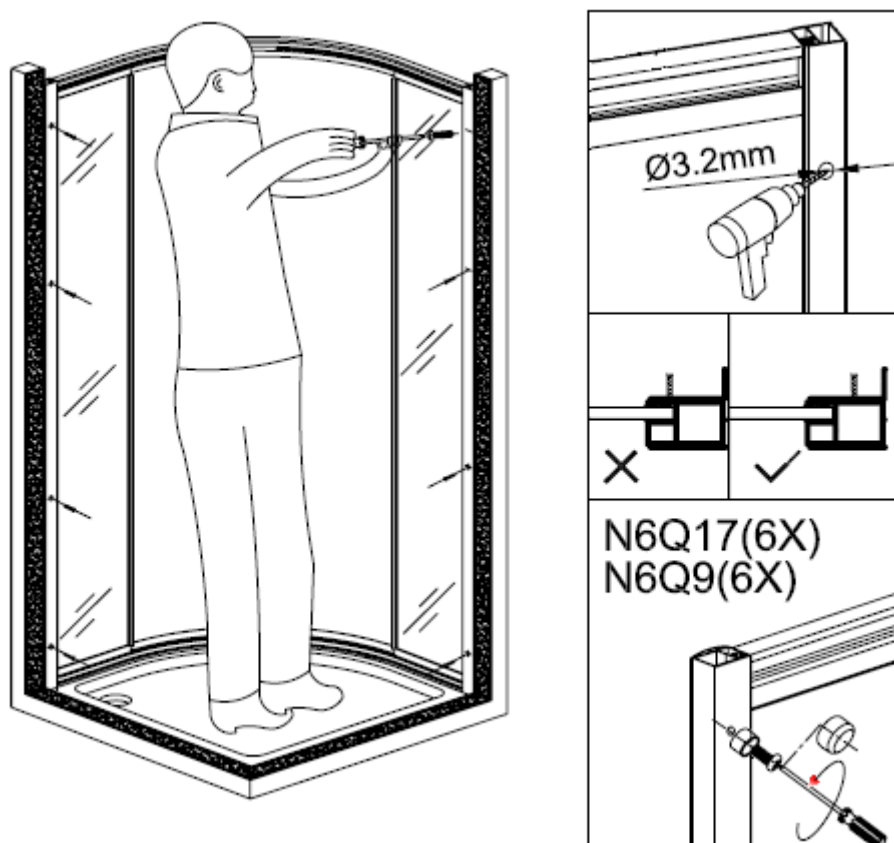

Figure 10
10. Fasten the fixed profile and wall profile by using screw(N6Q9) with caps,as showed in figure 10.